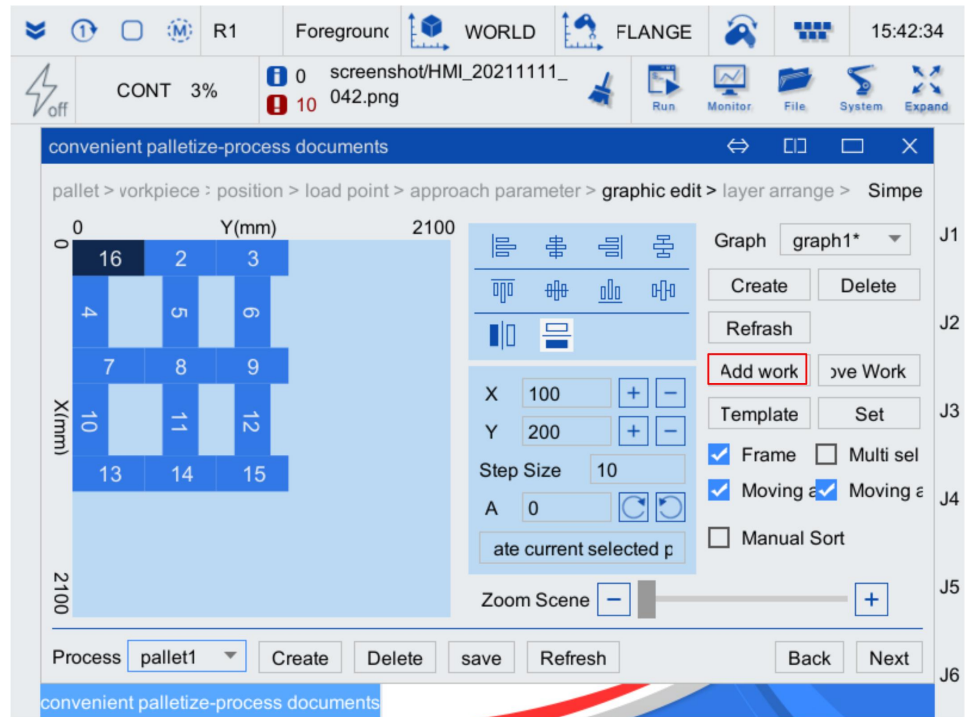

Figure 3-24 Add workpiece diagram
Step7. After arranging neatly, click "Add workpiece", and the newly added workpiece 16 will overlap with workpiece 1. When the workpiece overlaps, it will be displayed in red. As shown in Figure 3-24.